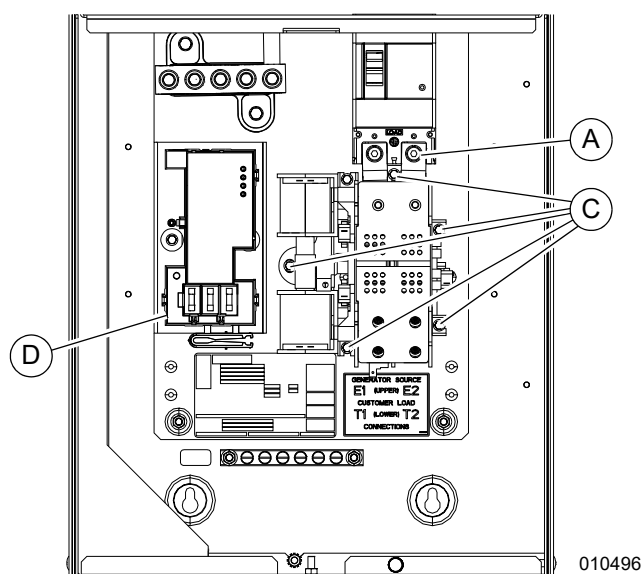

Figure 3-9. Install Kit G0074000
3. See Figure 3-9. Use provided M5 screws (C) to install transfer switch assembly from kit G0074000.
4. Install screws (A) from step 1 and tighten to 72 in-lbs onto circuit breaker.
5. Install SACM unit from kit G074000 into bracket provided (D).
6. Plug harness with 8 pin connector into SACM unit (D).